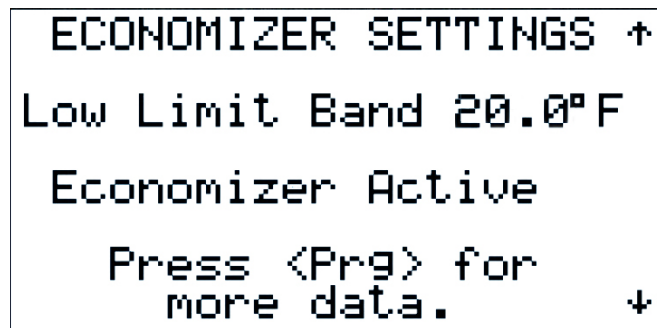
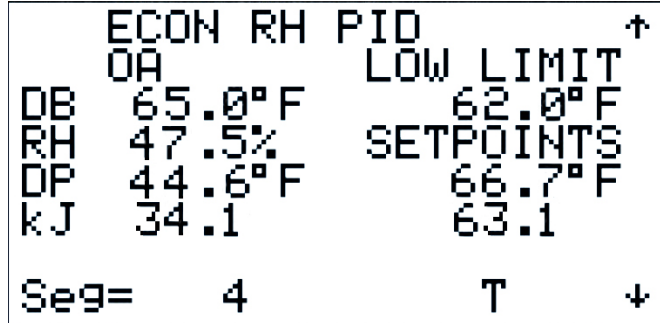

Figure 25
Figure 26
If the Economizer function has been enabled, the screen in Figure 25 will be shown. This screen allows the settings for the Low Limit Band from 0.0 to 20.0. The status of the economizer is shown as well on this screen. Pressing the **Prg** key displays additional information as shown in Figures 26 & 27.
The OA conditions and setpoints will be displayed in Figure 26. This information is used to determine the psychrometric chart segment that the economizer is allowed to operate in, and PID loop controls. The left side of the screen will display Outside Air conditions as follows: Outside Air Temperature (DB), Relative Humidity (RH), Dewpoint(DP), and Enthalpy in kilojoules (kJ). The right side of the screen will display the low limit temperature that is calculated from zone temperature setpoint minus the low limit band. This shows the minimum temperature allowed to keep the unit active in economizer mode. Below the low limit temperature, the setpoints are displayed for both dewpoint and enthalpy respectively. The dewpoint and enthalpy for the outside air are displayed next to the setpoints for comparison of values which determine the mode that will be active. Lastly, the bottom left corner of the screen displays the psychrometric chart
Press the **ESC** key to return to Figure 25.